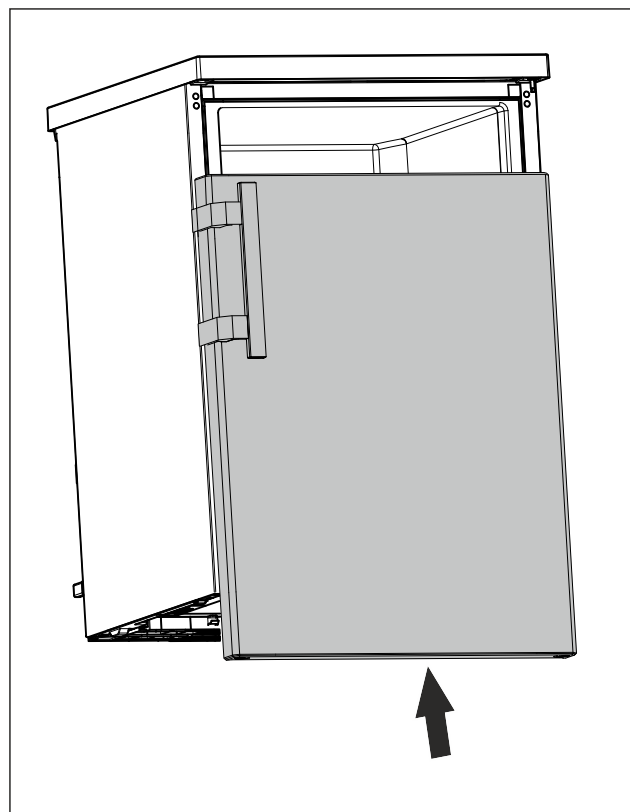

Fig. 21
- ▶ Slide the door onto the upper bolt in closed status. (see Fig. 21)